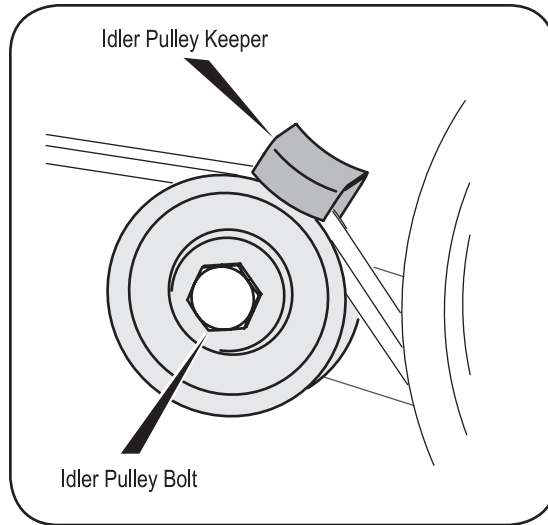

Figure 5-4: Idler pulley keeper belt removal.
3. Remove idler pulley bolt and move belt from under idler pulley keeper. See Figure 5-4.
NOTE: Upon reassembly, make certain the idler pulley keeper is as shown in Figure 5-4. Take note of the notch on the bottom of the keeper and alignment when reassembling with the replacement belt.